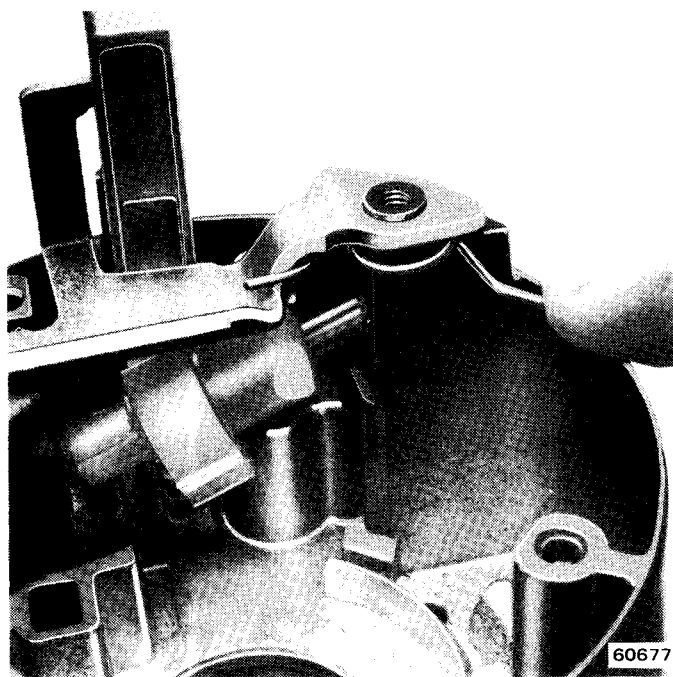

Fig. 11-23 Securing Release Lever Spring
(6) Raise release lever slightly and install end of release lever spring between lever and housing boss (fig. 11-23).